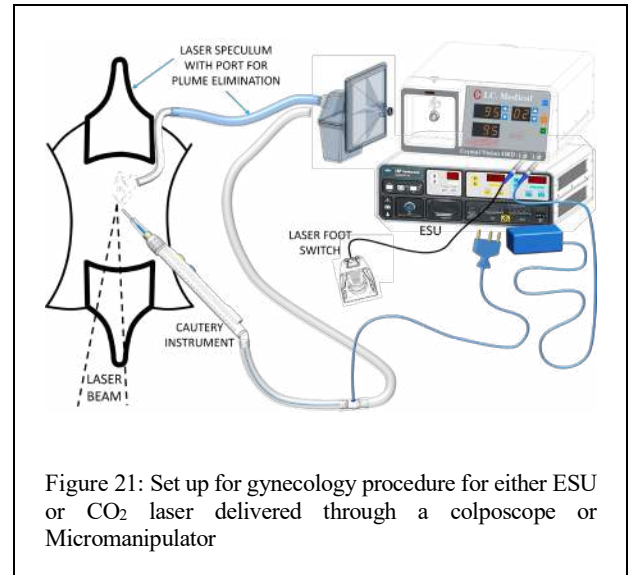

Figure 21: Set up for gynecology procedure for either ESU or CO2 laser delivered through a colposcope or Micromanipulator
3. Refer to Figure 21 for set-up.